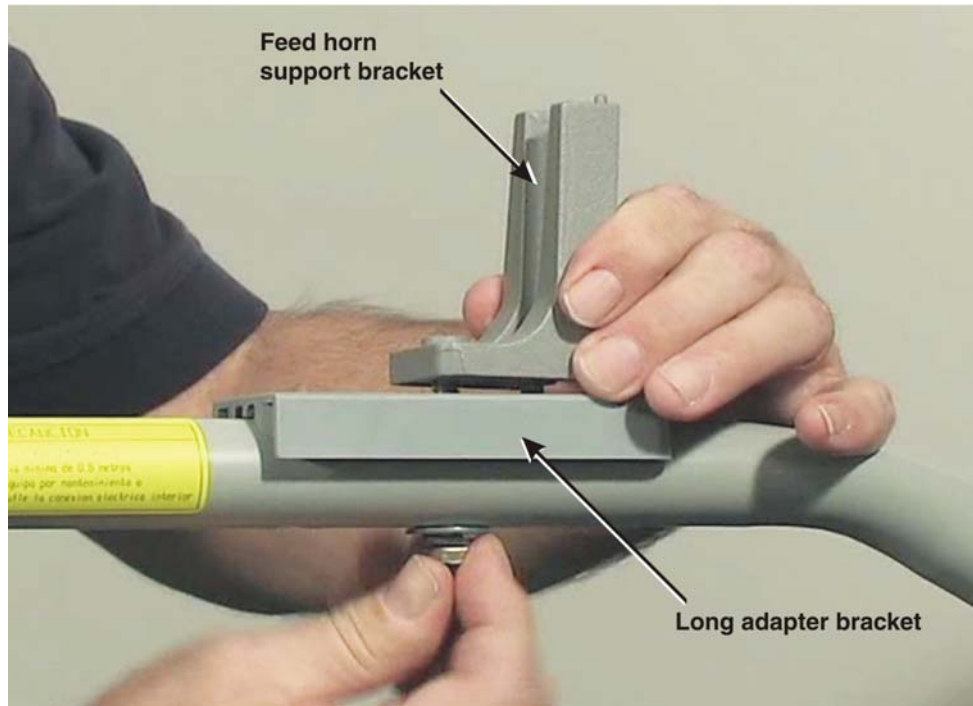

Figure 17: Positioning the radio and feed horn brackets
3. Position the feed horn support bracket above the long adapter bracket on the feed support arm as shown in Figure 17.